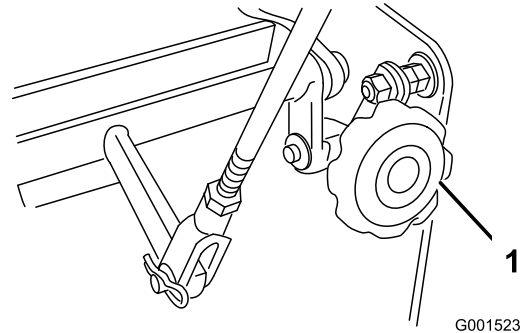

Figure 43
4. If the unit tracks to one side or the other, turn the quick track knob. Turn the knob right to steer right and turn the knob left to steer left (Figure 43).